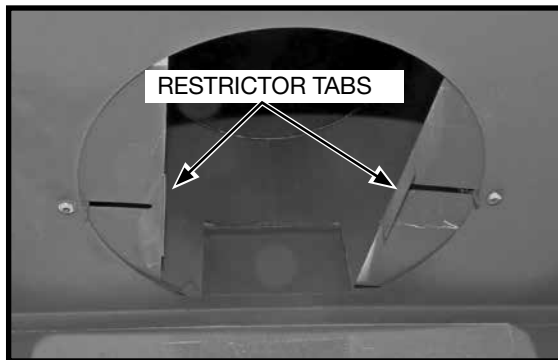

Figure 54: Vent restrictor tabs in typical position.
2. Before inserting the back panel into the firebox, move the restrictor plates out (Figure 54) so that the top part of the panel will be able to clear the tabs when being tilted into place.